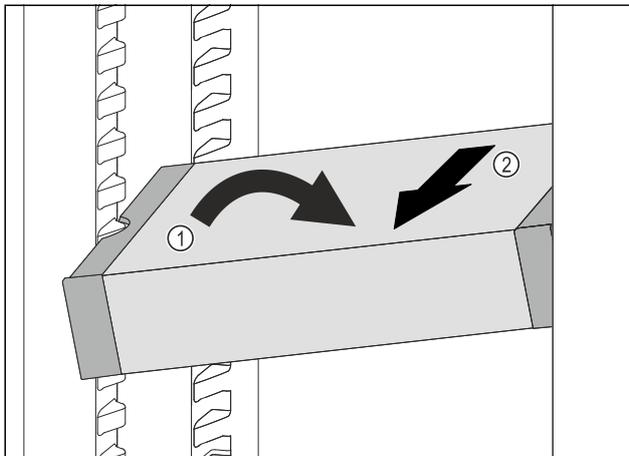

Fig. 85
- ▶ Set VarioSafe in refrigerator compartment at an angle. Fig. 85 (1)
- ▶ Take VarioSafe out to the front. Fig. 85 (2)